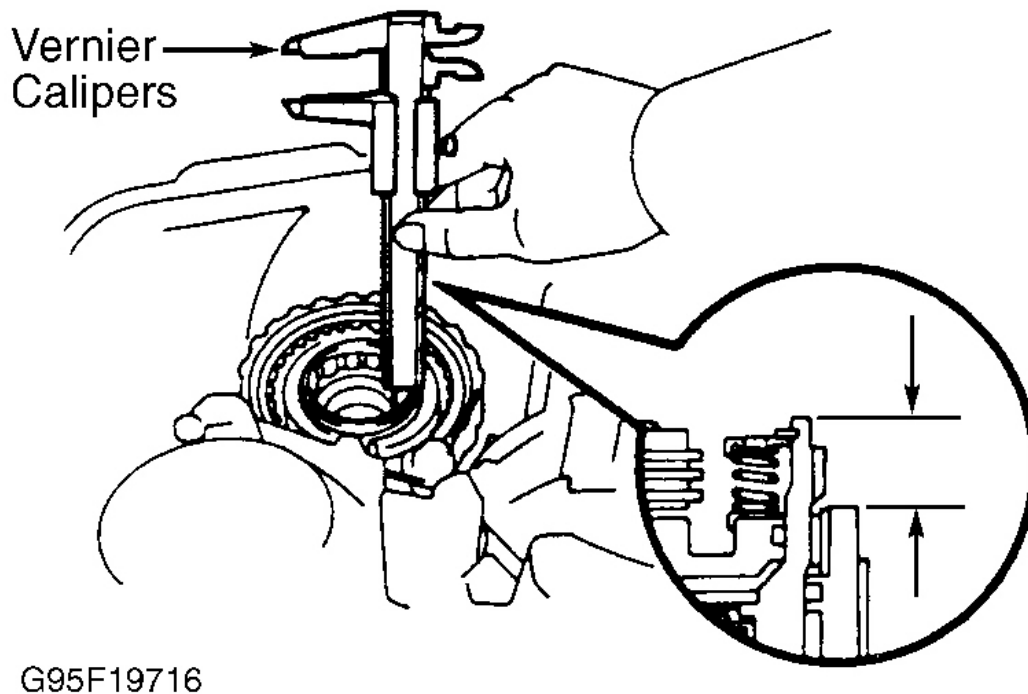

Fig. 88: Measuring Underdrive Clutch Assembly Height
12. Measure clutch assembly height from sleeve to inner race. Height should be .681-.717" (17.29-18.21 mm). See Fig. 88 . Check underdrive clutch piston stroke. Position dial indicator stem on underdrive clutch assembly. See Fig. 77 . Apply compressed air to oil passage in transaxle case. See Fig. 20 .